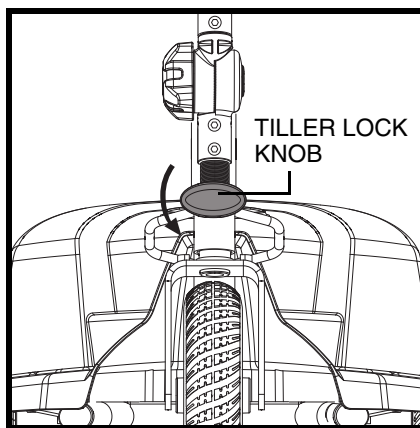

Figure 23. Tiller Lock knob (Unlocked)
9. Unlock the front wheel by turning the tiller lock knob 90° counterclockwise. **See figure 23.**